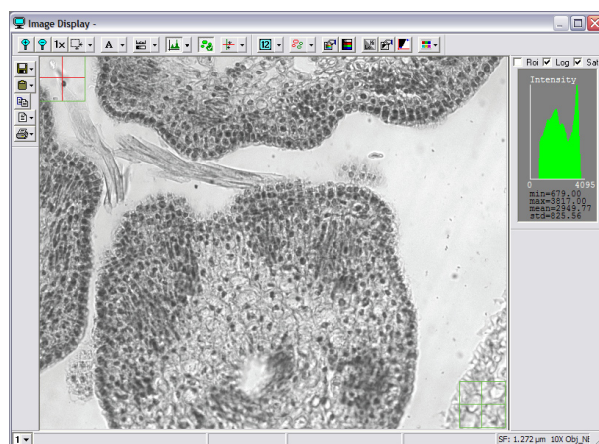

fig.6
10. If the object moved back to the middle of the top crosshair (as in step 8), the calibration for X, Y has been successful (**fig.6**), click **OK**. If it did not move to the same location, check the camera orientation to the microscope and repeat step 7-8.